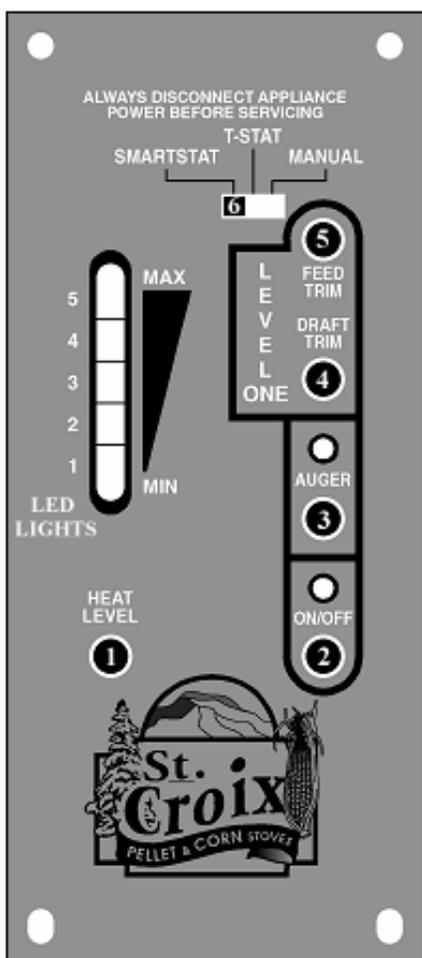
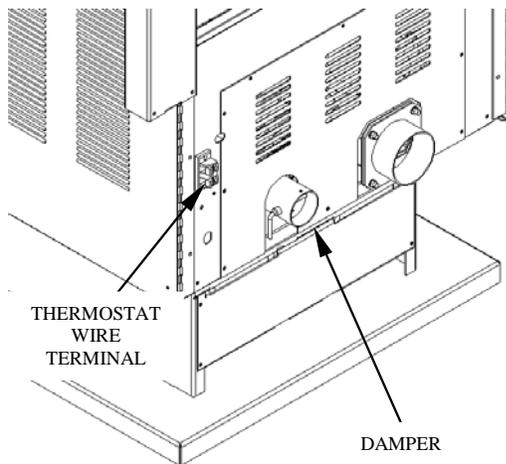

Figure 2
Figure 3
The Afton Bay is approved to burn a mixture of pellets and corn (maximum 50% corn). The Thermostat Switch should be set to the Manual position. (See Fig. 2 on page 5) Operation of the stove doesn't change when burning a mixture of pellets and corn. The burn pot will need to be cleaned on a daily basis, using the "Pot Scraper Tool" shown in figure 3 on page 9. Use the Pot Scraper Tool to remove any clinkers that build up because of the corn when needed. For more information, read the Daily, Periodic and Yearly Maintenance section towards the back of this manual.
A closer look at the Control Board on page 5, in figure 2 will explain how the board works. There are five buttons labeled 1 through 5, a slide switch labeled 6 and a LED Light bar with 5 Heat Settings. ***The LED Light bar is also used during the Diagnostic process, see page 6 and 7 for more details.***
The buttons on the board function as follows: (*Refer to Figure 2. The touch pad buttons and Slide Switch are labeled with the white numbers 1 through 6*)
**Lighting Your Stove.** (Refer to Figure 2)
**Shutting The Stove Off** (*Refer to Figure 2*)
1. Press the On/Off switch (2) once; the lights will go off and the fire will go out in a few minutes. The board essentially goes into "Safety shutdown".
The #2 LED and the #3 LED lights on the LED Light bar as show in Figure 2 will flash to give a
1. The **Proof of Fire** switch. This switch will sense the temperature of the Exhaust rising during start up. If the Exhaust temperature does not reach 110 degrees F, or if during use the temperature drops below 110 degrees F, the Stove will go into **“Internal Alarm”** and the Auger will quit feeding fuel. Once the stove completes the safety shutdown, the #3 LED will start blinking. *(See Figure 2 on Page 5 and point 3 on page 15)*
2. The **High Limit** switch. This sensor will sense if the unit reaches temperatures that are too high for normal operation. If this happens the Auger will quit feeding and the #2 and #3 LED lights will flash simultaneously. *(See Figure 2 on Page 5 and point 4 on page 16)*
3. The **Vacuum** Switch - For the stove to operate, the Firebox needs to be sealed. During the first 30 seconds after the stove has been turned on the Control Board will check if the switch senses negative pressure (Vacuum) in the Firebox of the stove. If there is no negative pressure, the stove will shut down and the #2 LED will start blinking. *(See Figure 2 on Page 5 and point 2 on page 15).*